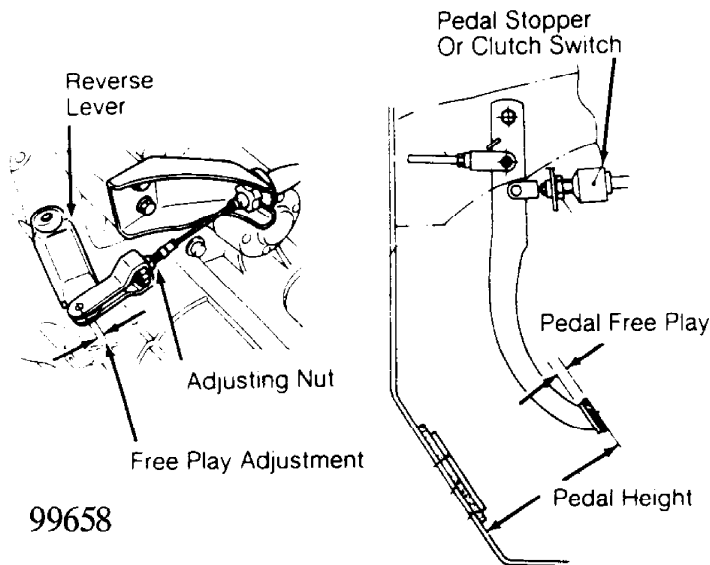

Fig. 2: Adjusting Clutch Pedal (Mechanical Clutch Shown; Typical)
Clutch pedal height is adjusted by adjusting clutch pedal stopper or clutch switch, located below pedal hinge. See Fig. 2. Loosen lock nut. Rotate clutch pedal stopper or clutch switch until pedal height is as specified in CLUTCH PEDAL HEIGHT SPECIFICATIONS table. Tighten lock nut.
1) Adjust free play at release lever end of clutch cable. See Fig. 2. Loosen lock nut. Apply hand pressure to release lever in direction of clutch disengagement to remove free play. Tighten adjusting nut.